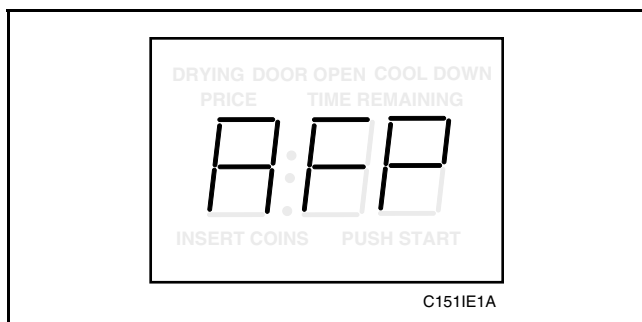

Figure 23
- Press the LOW TEMP (+) pad or the NO HEAT (-) pad to scroll through the programmable options until “AFP” appears in the VFD, *Figure 23*.